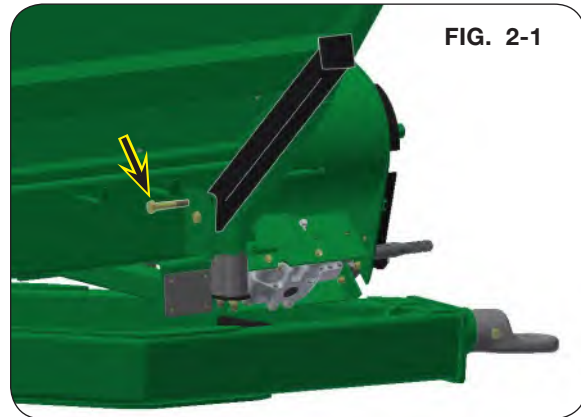
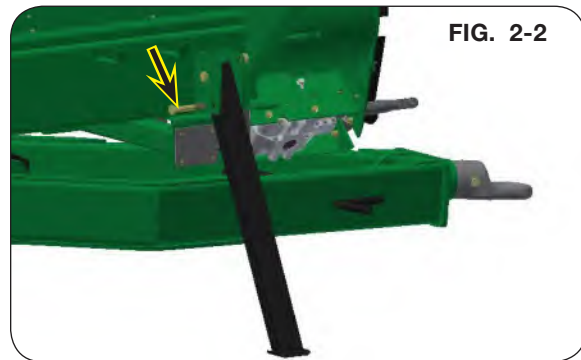

FIG. 2-1
FIG. 2-2
3. Remove and save the 1"-8UNC x 6" capscrew (9390-195) and 1"-8UNC elastic locknut (9398-026) (FIG. 2-1). Rotate the support stands (276748B) downward. Reinstall the 1"-8UNC x 6" capscrew (9390-195) and 1"-8UNC elastic locknut (9398-026) (FIG. 2-2). Repeat process on the opposite side of the grain cart.